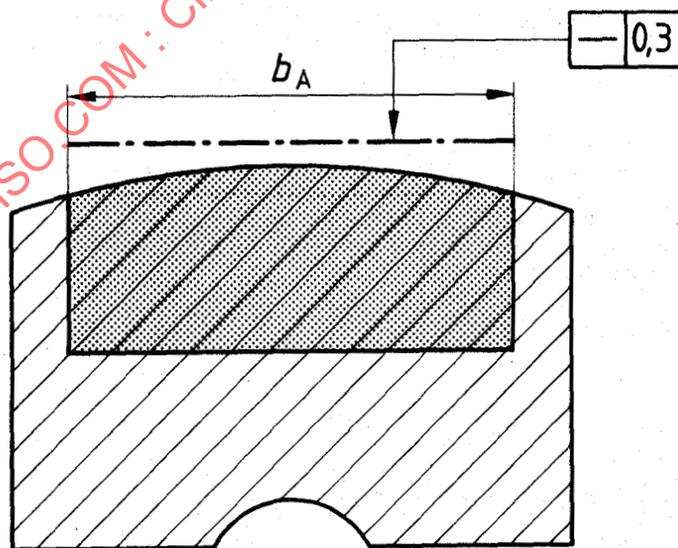

Figure 2 — Convexity
3.5 convexity, h_{Cb} : Deviation from a flat profile, perpendicular to the longitudinal axis, measured between lines parallel to the base surface and passing through the highest and lowest points of the mounting area A_1 (see figure 2).